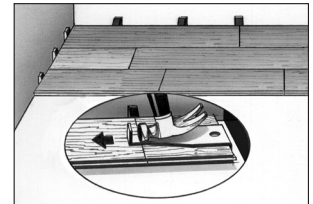

Figure 17
- Use a pull bar when necessary to ensure joints are tight (Fig. 17).